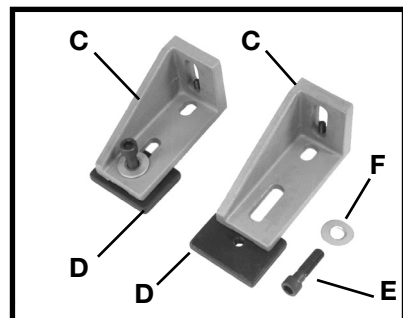

Fig. 4
3. Position clamping plate (D) Fig. 4 under mounting brackets (C) and fasten with two M12 x 45mm hex socket head screws (E) and 16mm x 41mm flat washers (F). Tighten screws just enough to hold assembly together. Remove tailstock from the wood lathe.